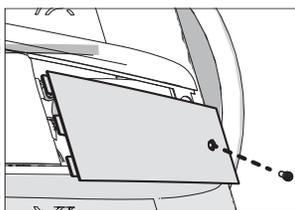

Figure 1
1. Loosen the bolt and remove the cover window (Figures 1).